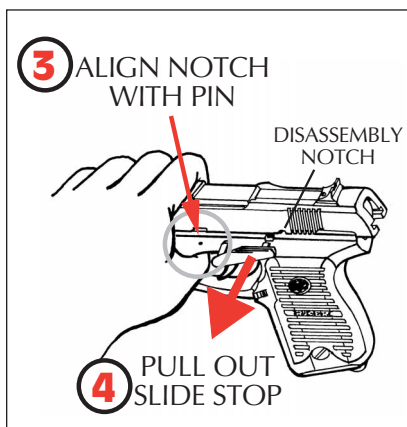

FIGURE 3
4. Remove fingers from ejection port. Grasp slide tightly. Now press down on slide stop and allow slide to move slowly forward until the slide stop spring retainer pin is aligned with the slide stop notch. Press in on right-hand end of slide stop and pull slide stop out of frame to the left until it locks in its withdrawn position. (See Figure 3, above). Do not attempt to pull it completely out of the frame.